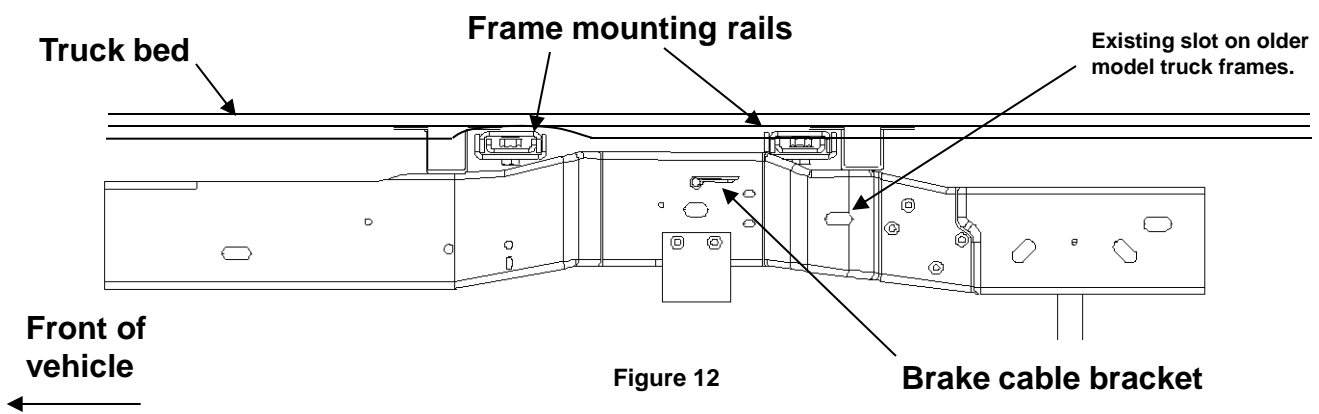

Figure 12
9. If there is a brake cable bracket located above the rear axle on the driver's side of the frame, then disassemble and remove the brake cable bracket (**Figure 12**). Do not discard the brake cable bracket it will be re-attached later.